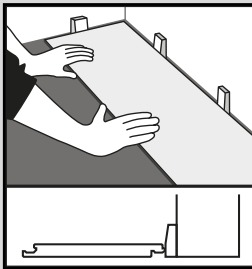

Fig. 1
1. First check the width of the room and calculate how many full rows will fit; the remaining space should be halved to indicate the width of the first and last row of planks. If the space is calculated to be less than 6" (150mm), the number of full rows should be reduced by one and the width of the cut planks in the first and last rows is increased accordingly. Install the plank with the tongue side/cut edge facing the wall, fit 0.2" (5mm) spacers between the plank and wall (Fig. 1).